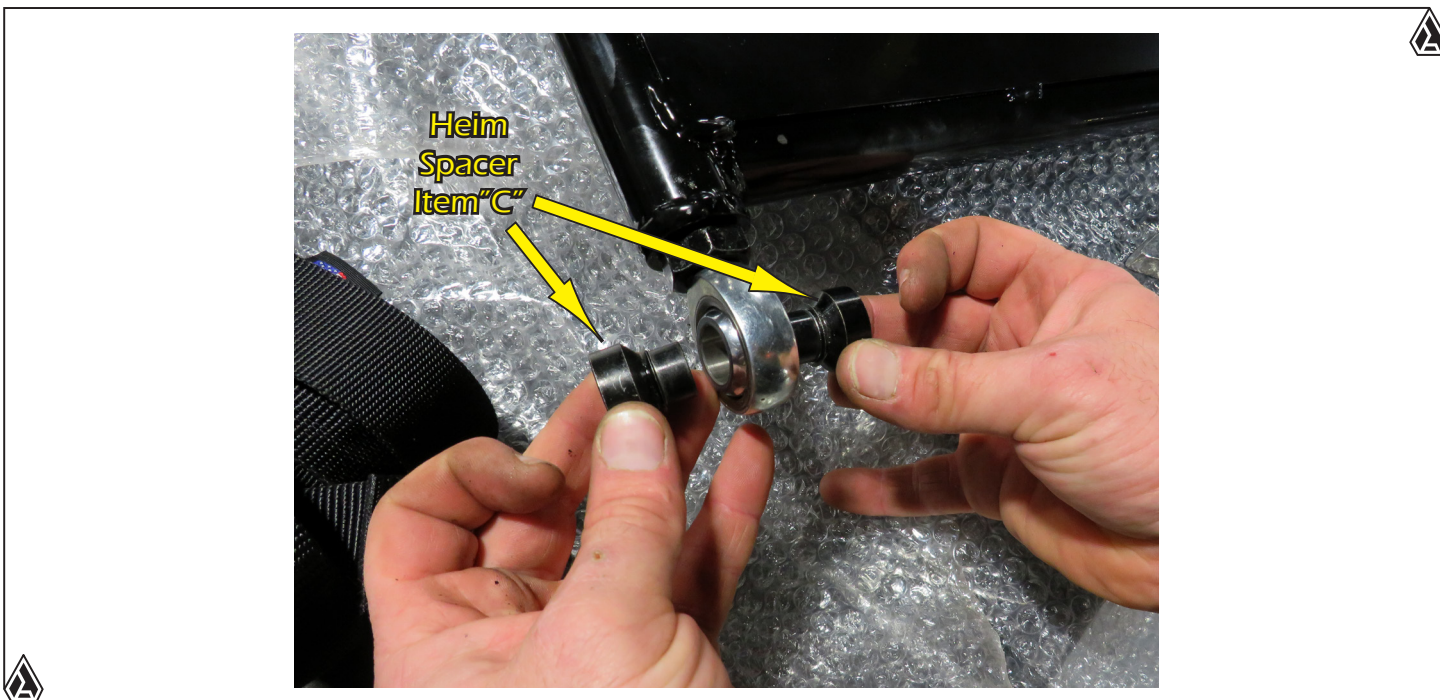

FIG. 18
18. Before installing the Rack into the Pivot Bracket Assembly, you will need to install a **Heim Spacer, Item "C"**, on each side of the Heim. They just slide into each side as shown in **Fig. 18**.